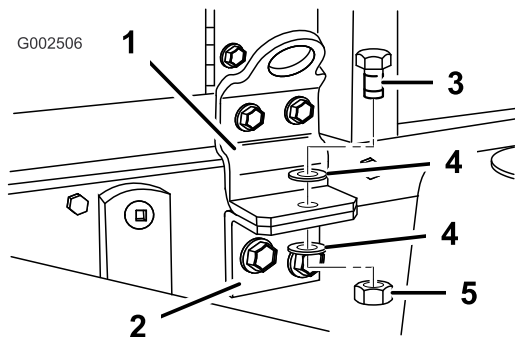

Figure 44
3. Remove the safety bolts from the front of the skid (Figure 44).